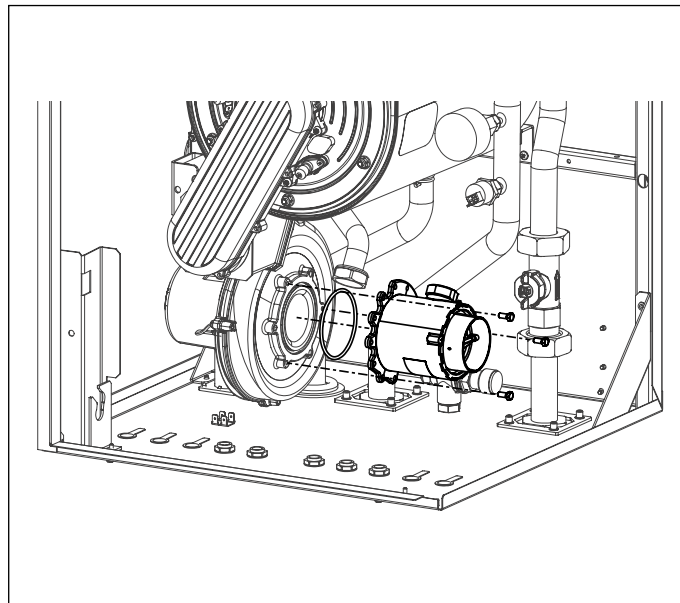

Fig. 42 Mixer
- Loosen the three socket head screws, and remove the mixer (see Fig. 42 Mixer).
- Refit the reassembled mixer onto the fan with the socket head screws, making sure to insert the O-ring between mixer and fan (see Fig. 42 Mixer).